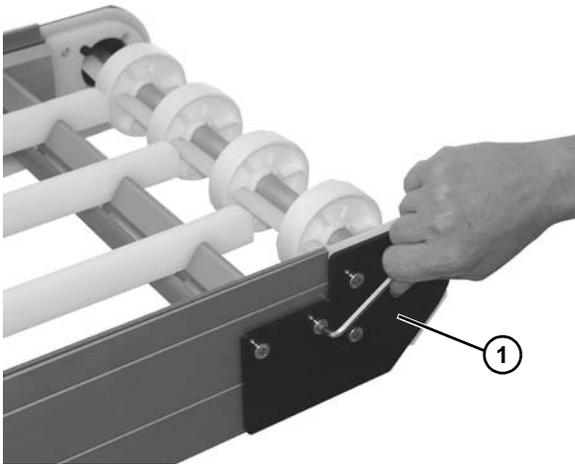

Figure 29
1. Remove conveyor idler end (Figure 29, item 1). See “C - Idler Spindle Removal” on page 21.